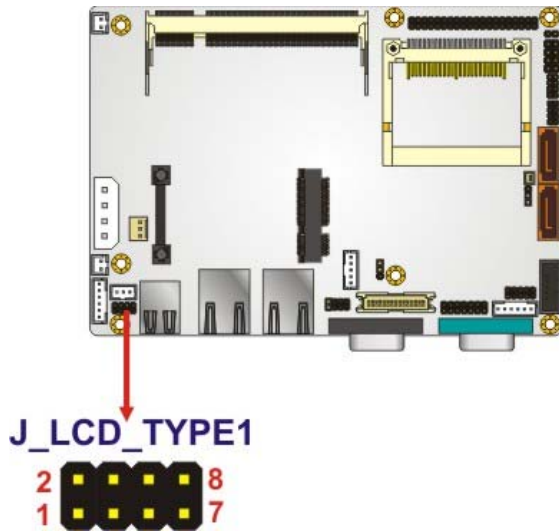

Figure 4-7: LVDS Panel Resolution Jumper Pinout Locations
- Jumper Location:** See Figure 4-7